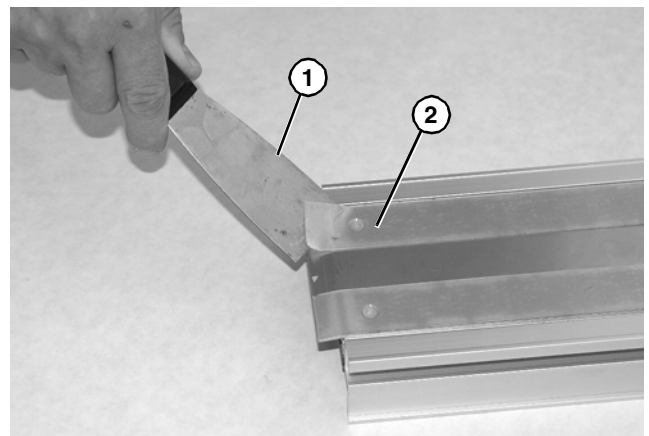

Figure 58
2. With a putty knife (**Figure 58, item 1**), start by raising edge of wear strip (**Figure 58, item 2**).